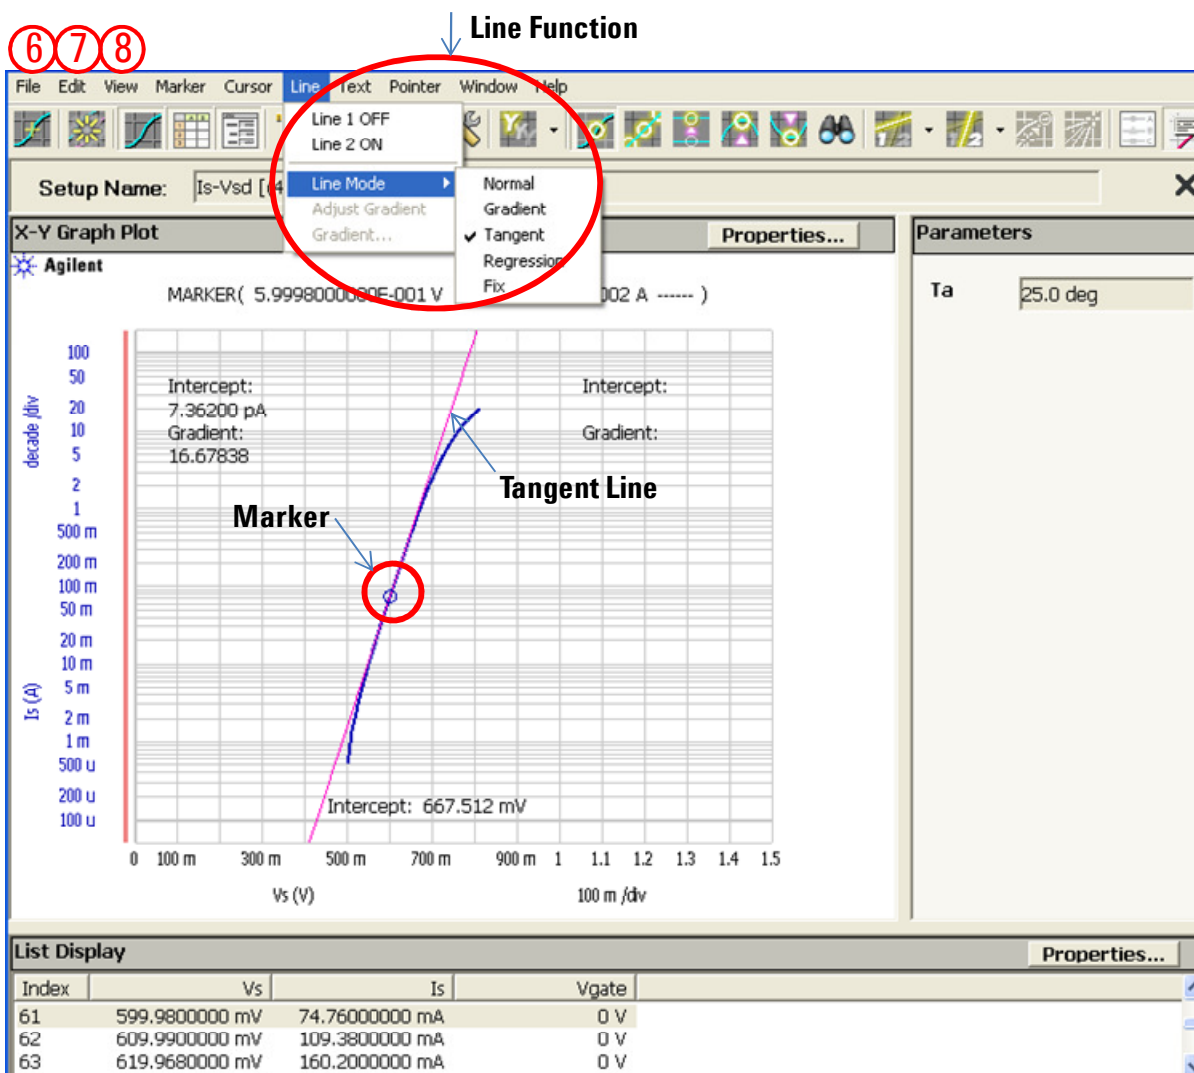

Figure 3-49. Source-Drain diode forward characteristics using the Is-Vsd Application Test.
Step 8. You can see the Is-Vsd curve graph as shown in figure 3-49.
Figure 3-49 plots source current  $I_v$  in Y1 axis versus source voltage  $V_{sd}$  in X axis.
Step 21. You can see the  $I_d$ - $V_{gs}$  curve and  $g_{fs}$  (Y2 axis) graph that is the same as figure 3-49.
Step 20 and 21 are the same as the step 7 and 8 of figure 3-49. The Maker and Line function can be activated as shown in the figure 3-49.